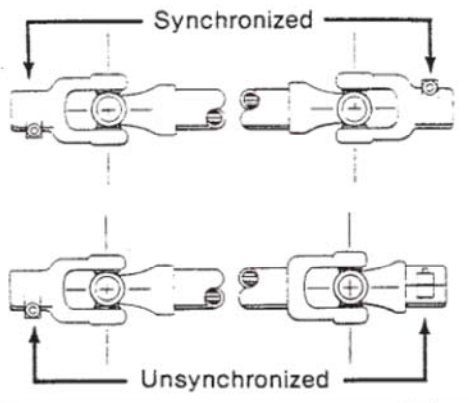

Figure 7
3. Make sure the drive shaft (tumbling bar) is assembled with its universal joint knuckles "synchronized," as illustrated in Figure 7. If knuckles are not synchronized, the bar will chatter when rotating, which will cause the generator output voltage to flicker.